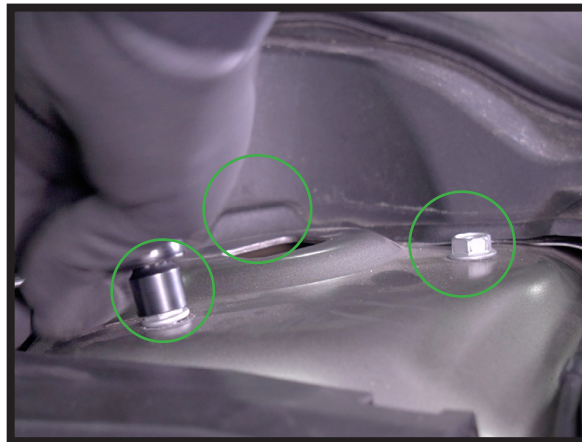

FIGURE 10
6. REMOVE THE THREE (3) TOP MOUNT BOLTS UNDER THE HOOD. (FIGURE 10)